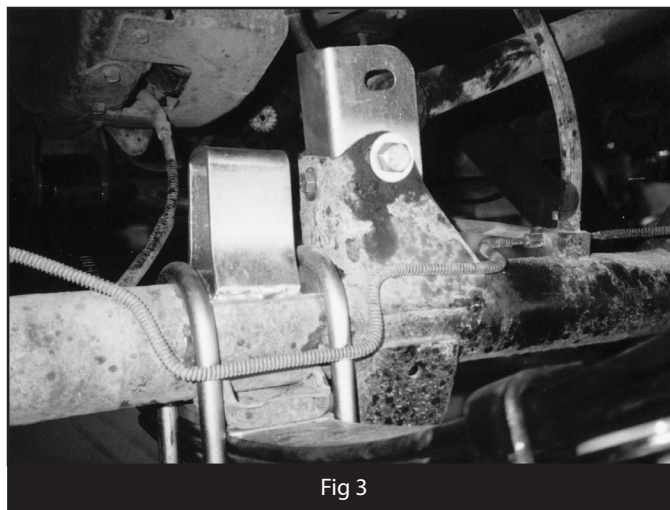

Fig 3
2. Install the new rear track bar bracket (940101) into the original axle mount. The slotted holes in the bracket should be up. Place the provided crush sleeve (#5) in the new rear track bar bracket and align with the bracket holes and factory mount holes. Loosely fasten the bracket/sleeve with a 12mm x 70mm bolt, nut and 7/16" USS washers (Fig 3)